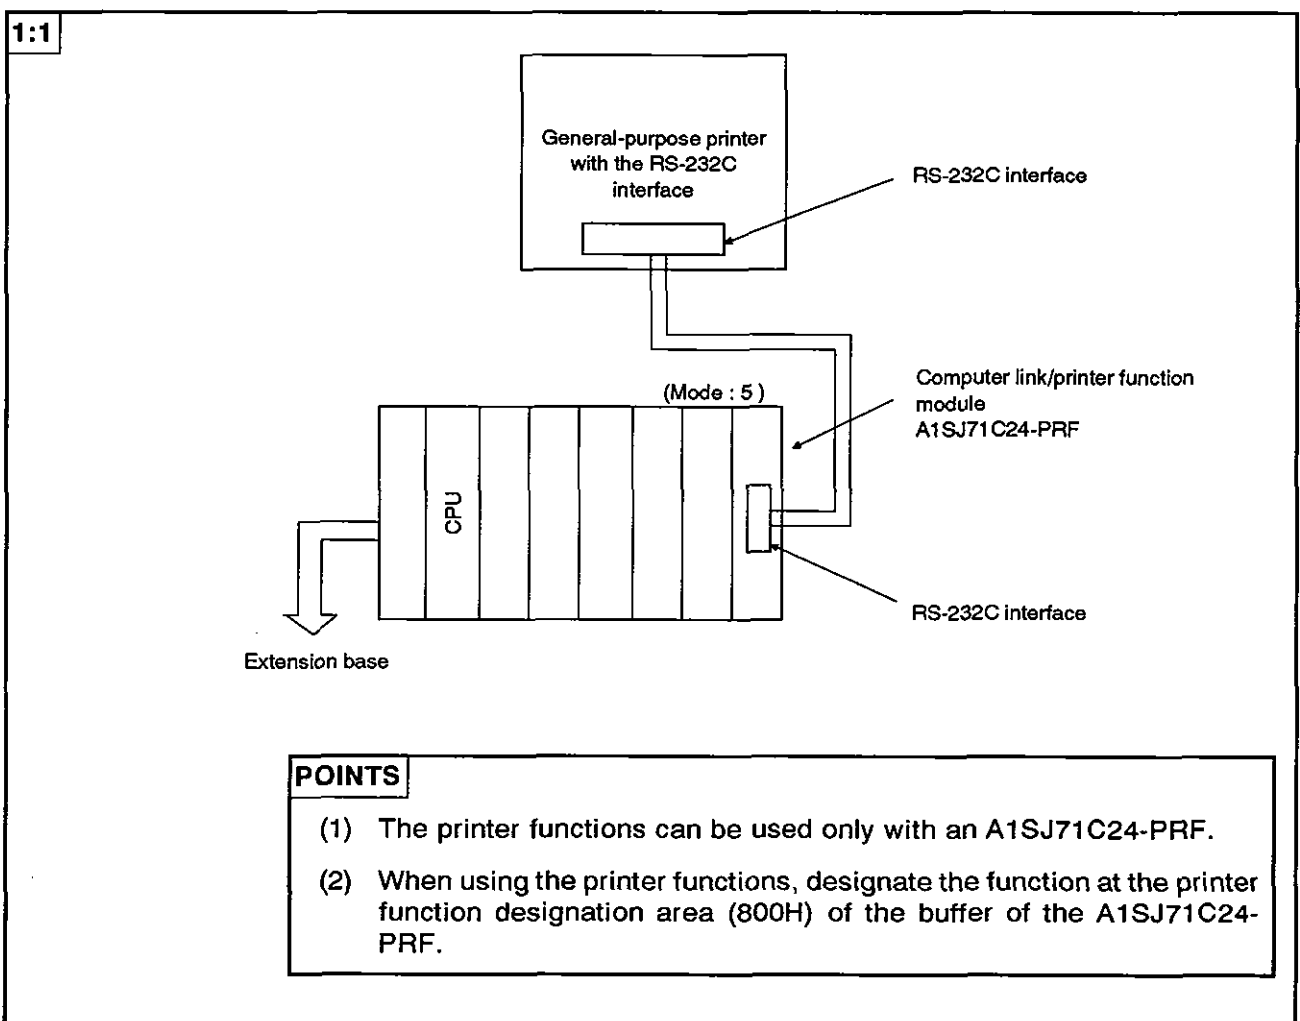

Fig. 2.4 System Configurations (III)
- (1) The system configuration for a 1 : 1 ratio of a printer to a PC CPU is shown in Fig. 2.4 below.